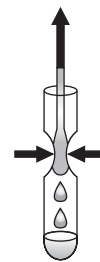

FIG. 18.2.
4. Remove the swab from the extraction solution while squeezing the tube while the swab is withdrawn (Fig. 18.2). Discard the swab.